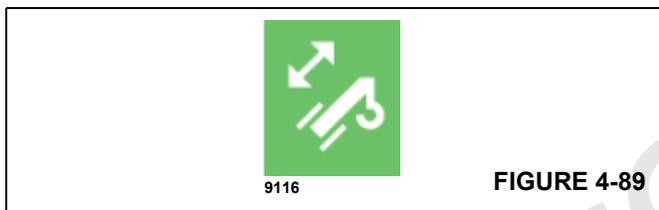

FIGURE 4-89
- Verify that the telescoping function is enabled. This is confirmed by the green background for the icon for the telescoping function in the right margin area of the operating display. Refer to (Figure 4-89).